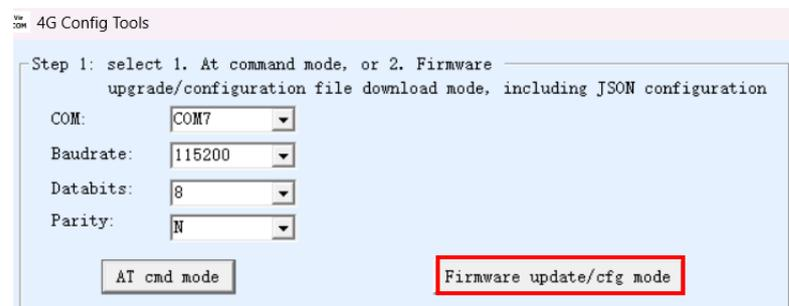

Fig.4 Configuration tool
3. After the serial port search, the configuration tool interface open as you see in fig 4.
2. In 4G configuration tool interface click on firmware configuration as show in fig 4.